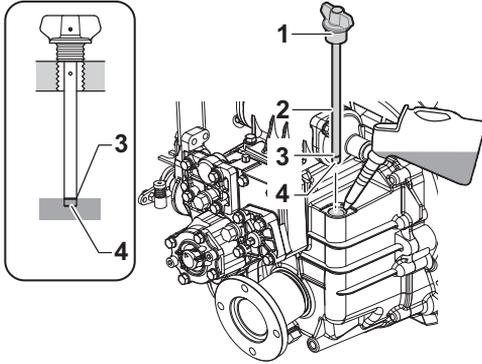

Figure 7
2. Remove the filler cap (**Figure 7, (1)**) at the top of the housing.
3. Remove dipstick (**Figure 7, (2)**) and wipe with clean cloth.
4. Re- insert the dipstick without screw in. See the illustration (**Figure 7**).
5. Remove dipstick. The oil level should be between upper (**Figure 7, (3)**) and lower (**Figure 7, (4)**) lines on the dipstick.
3. Fill with oil to the upper limit on the dipstick (**Figure 7, (3)**). See *Marine Gear Oil Specifications* on page 39.